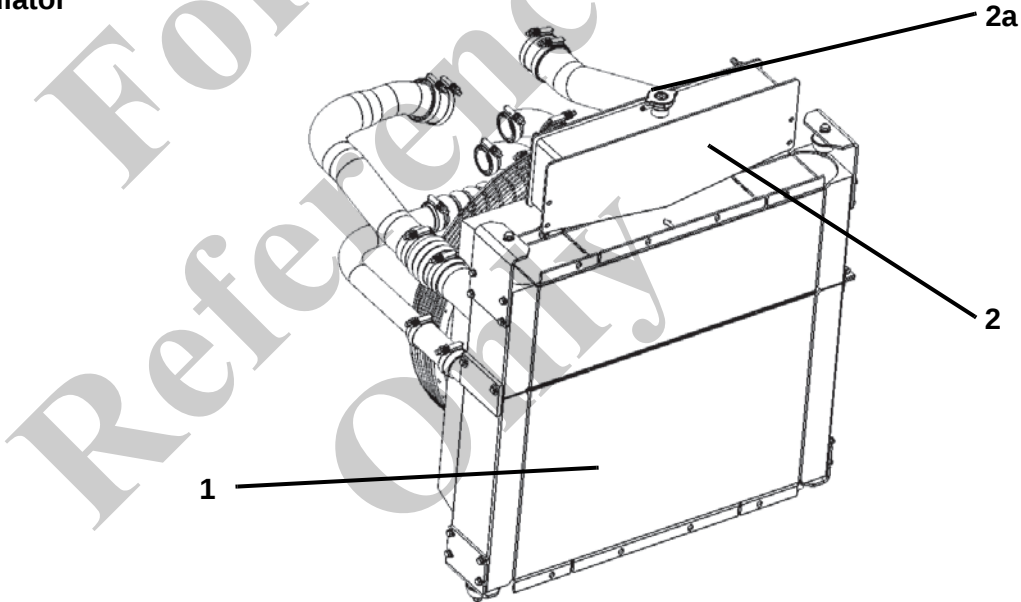

Fig. 13 Combination cooler
1	Let diesel engine and radiator (1) in Fig. 13 cool down.
2	Carefully open sealing cap (2a) in Fig. 13 of expansion tank (2) in Fig. 13 to relief the pressure.
4	Close the sealing cap (2a) in Fig. 13 of the expansion tank.